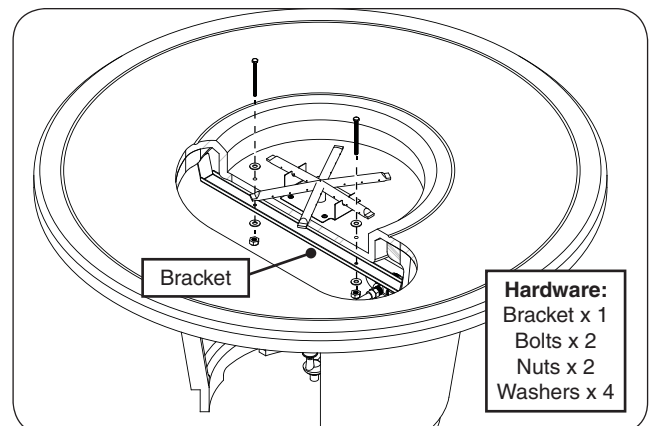

Fig. 17-4 Install bracket
5. Locate the supplied support bracket kit and install as shown in Fig. 17-4. The bracket must be inserted into the enclosure through the door opening, aligned with the holes found on the burner pan, and fastened with a 1/2" wrench and the supplied bolts (2), nuts (2), and washers (4).